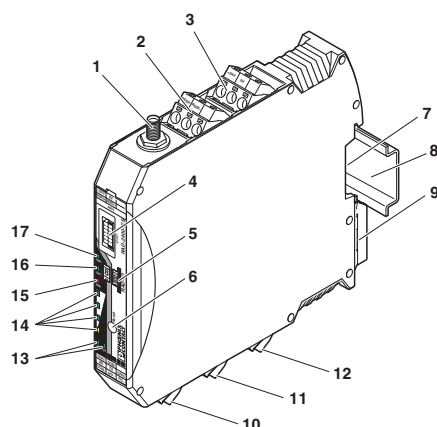

Figure 3-1 Wireless module structure
- Connect the single wires of the data cable to the COMBICON plug-in screw terminal block (Figure 3-1, item 10).